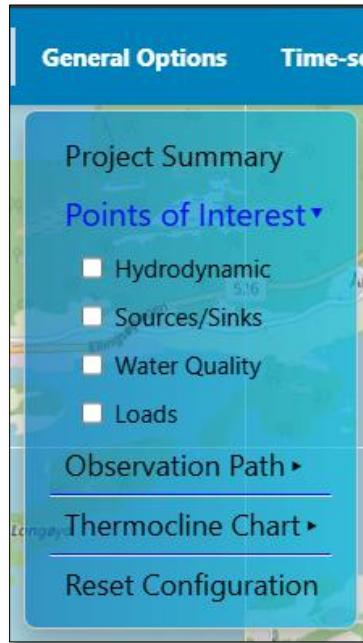

Figure 1.5. General options
- *General Options:* allow the user to see overviews of the project, such as a summary of the project, information on POI during the simulation, select and plot profiles, customize and draw thermocline charts (**Figure 1.5**).